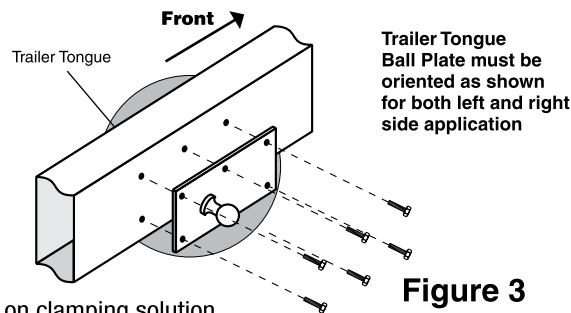

Figure 3
- Align the Trailer Tongue Ball with the holes on the trailer tongue as shown in Figure 3. Install screws.